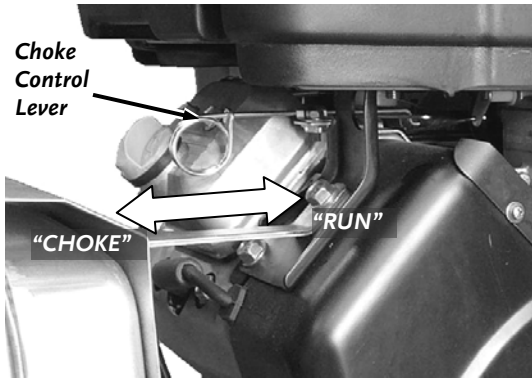

Figure 16
2. Pull the Choke Control Lever to the "CHOKE" position (**Figure 16**) (leave in the RUN position if the engine is already warm).